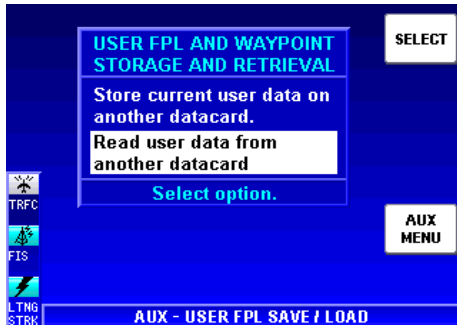

Figure 1-192
3. Press the **SELECT** Softkey to display Figure 1-192.